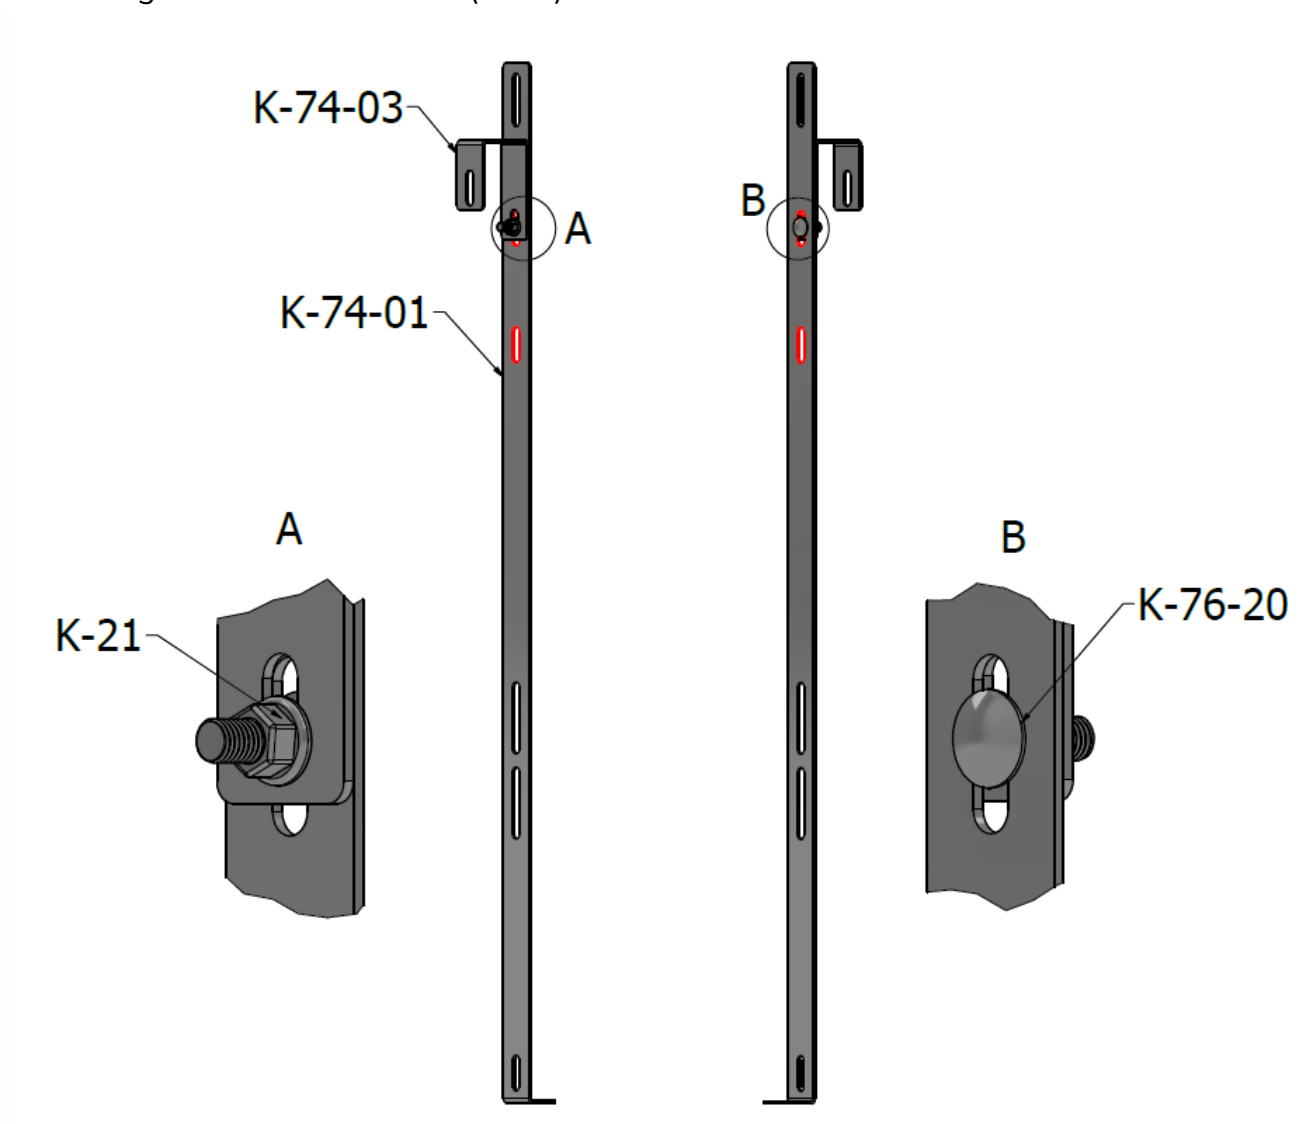

FIG.3 Bolting of elements K-74-01 and K-74-03
2. The next step is to pre-screw the components K-74-01 and K-74-03 together. To do this, use one of the two prepared holes, allowing the height of the module to be selected for mounting on the railing. The components should be bolted together using a K-76-20 carriage bolt and a K-21 nut (FIG.3).